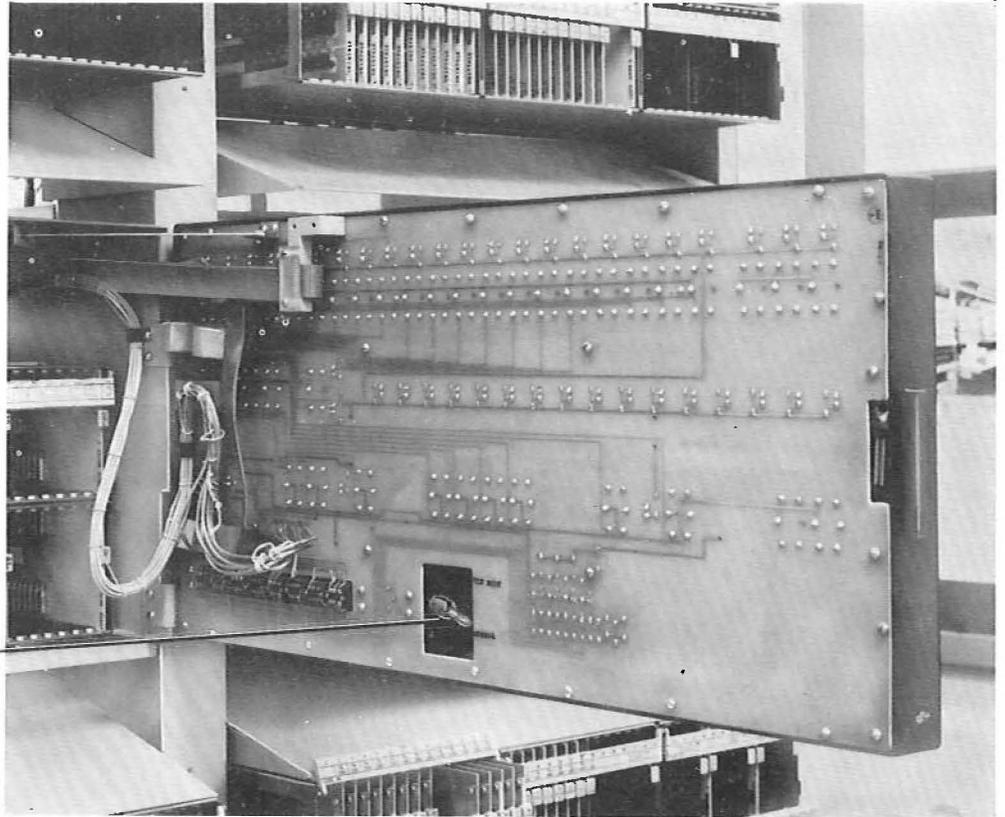

Fig. 5—Test Mode/Normal Switch
- (2) At the front of the 3A central control panel, release the **Manual** key. Make sure both CUs are out of the manual mode.
- (3) Check that some of the lamps and LEDs are lighted on the 3A central control panel.
- (4) Set test mode switch to NORMAL. This switch is located on the rear of the CU control panel. See Fig. 5.
located on the rear of the CU from panel. See Fig. 5.